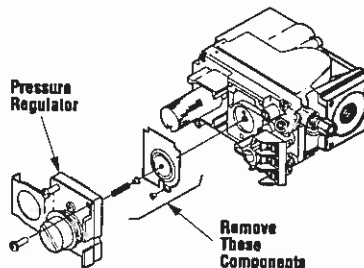

Figure 24
Step 4. SIT Systems - Refer to *Figure 24* and the instructions provided with the kit. Using a Torx T20, remove and discard the three pressure regulator mounting screws. Remove the pressure regulator, spring, poppet, diaphragm and bushing. Discard all removed components. Ensure the rubber gasket installed on the back of the replacement pressure regulator is properly positioned and install the new pressure regulator using the new screws supplied with the kit. Tighten screws to 25 in. lb. torque.